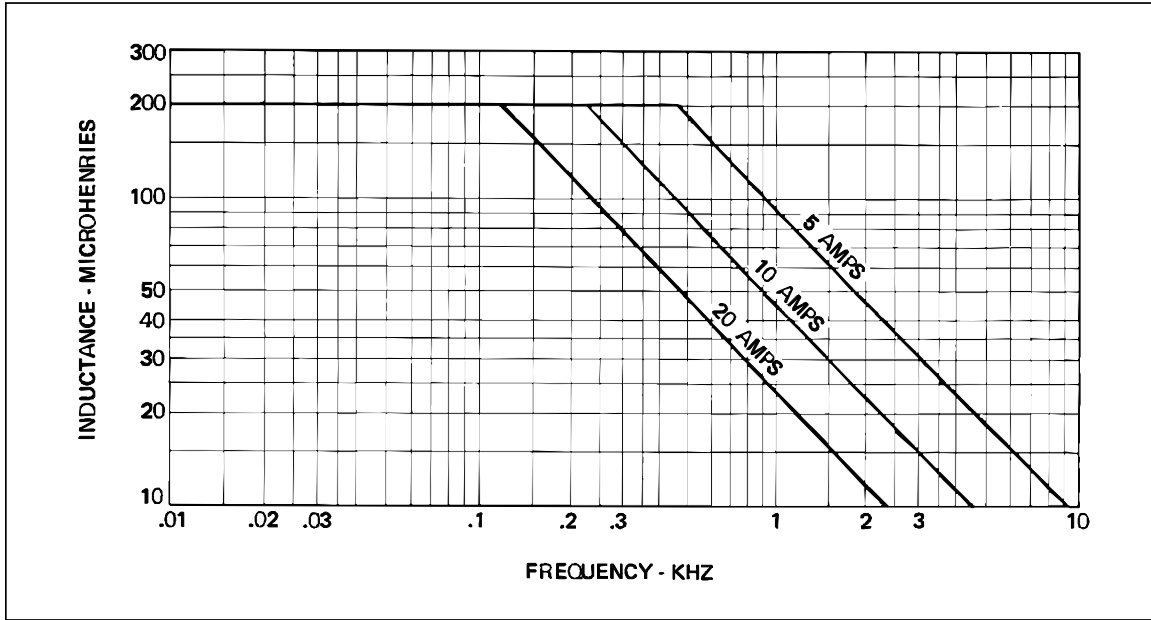

Figure 2-2. Maximum Load Inductance vs Frequency
1. Compliance voltage (3.0 V maximum) places a restriction on the product of inductance and operating frequency for a given output current. This is illustrated in Figure 2-2 for maximum load inductance vs frequency at output currents of 5, 10, and 20 A.